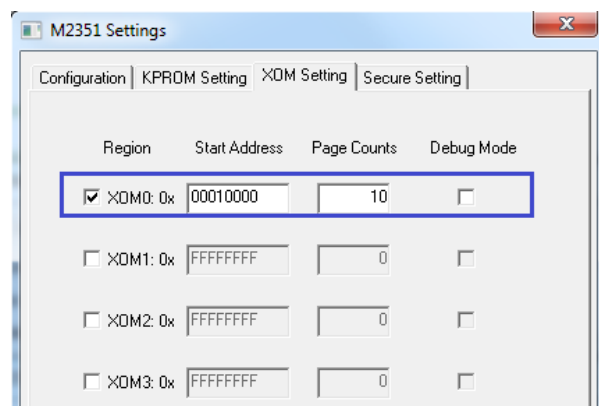

Figure 3-4 Keil® MDK XOM Setting
- After entering the “M2351 Settings” page, select “XOM setting” page to enter XOM setting page, as shown in Figure 3-4.